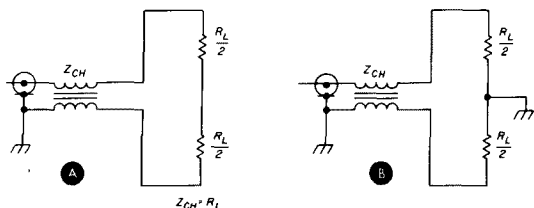

fig. 4. Test circuit for a 1:1 balun *without* a tertiary winding, with and without the load impedance centertap grounded.  $Z_{ch} = R_L$  in both cases.
Perhaps one of the most interesting experimental results of the NBS work is the strange "oscillating" gain characteristic shown in Viezbicke's Figs. 4, 5, and 6, reproduced here for convenience in figs. 13, 14, and 15. I have attempted to calculate a number of these cases and although the oscillating gain phenomenon does show up, the detailed agreement between experiment and theory is not impressive. However, I have found that the exact behavior of these long and heavily (director) loaded arrays is critically dependent on frequency and/or exact director lengths. Accordingly, I have run calculations for several frequencies around the central frequency (normalized to unity). The results are shown in fig. 16, where the theoretical calculated points for each frequency are connected by line segments for clarity.
fig. 13. Yagi gain as a function of length (number of directors) for different constant spacings between directors of length equal to  $0.382\lambda$  (Fig. 4, NBS Report 688).
To show the practical need for tertiary winding, I'll discuss the effects that the lack of a tertiary winding will have on balun performance. Consider the 1:1 balun with no tertiary winding, as shown in fig. 4. Because of the instrumentation considerations, it's easier to use a balanced load, consisting of two equal-value resistors, each of value  $\frac{R_L}{2}$ , and to make measurements at the unbalanced side rather than vice versa, which would require a balanced impedance bridge. The center of these two resistors may be grounded, as in fig. 4 (B), or ungrounded, as in fig. 4 (A). If the balun is working properly, there will be no difference whether the resistors' center is grounded or not. Any differences can give an important clue as to the type of problem being encountered. In all cases, I'll assume the total load impedance,  $R_L$ , is equal to the characteristic impedance,  $Z_{ch}$ , of the transmission line.
First, let's assume the center tap of the load is not grounded, as in fig. 4 (A). The resistive component